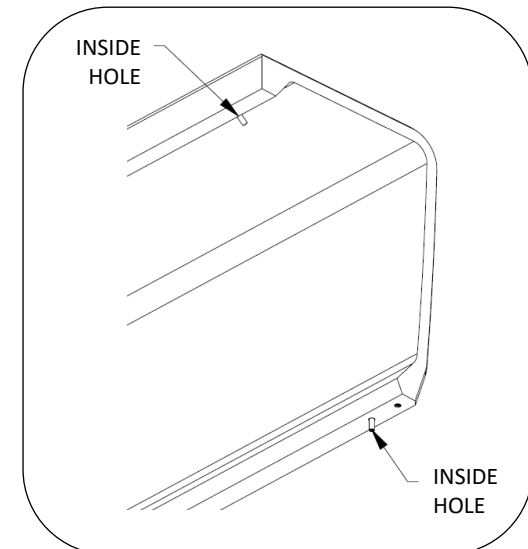

Fig. 9
11. Install 1/4-20 x 1" set screws in concrete. Each location has two inserts – install set screw in the inside hole, see Fig. 9. Set aside washers and nuts for installation in future step.